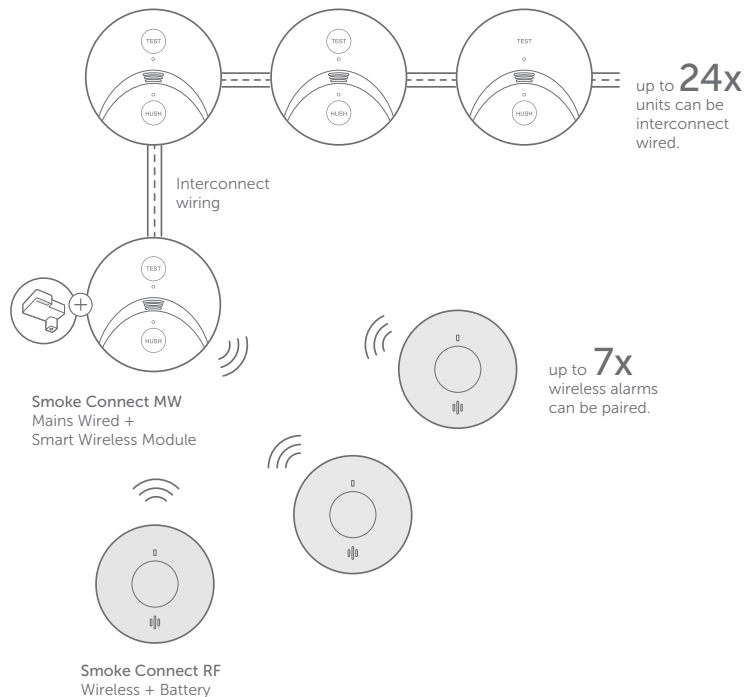

Figure 11
6. All paired units will have the RED LED flashing once every 40 seconds (example of network see Figure 11).